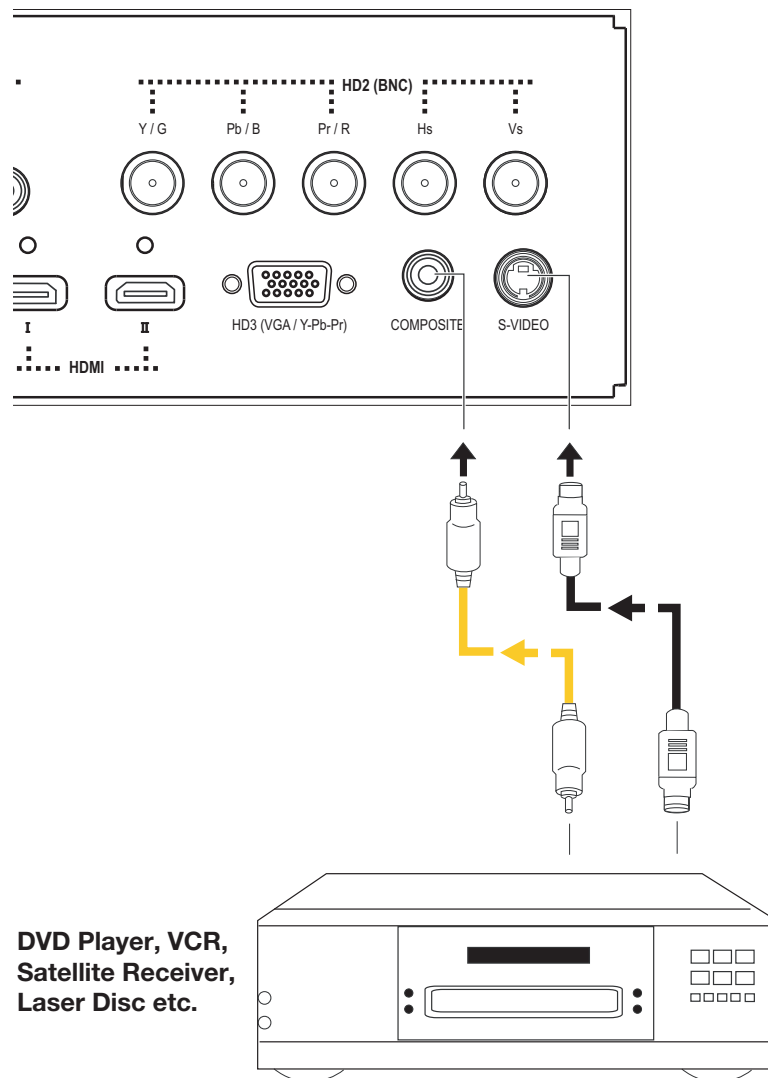

**Figure 3-15. S-Video and Composite Video Connections**
**S-Video/Composite Video Connections:** See Figure 3-15.